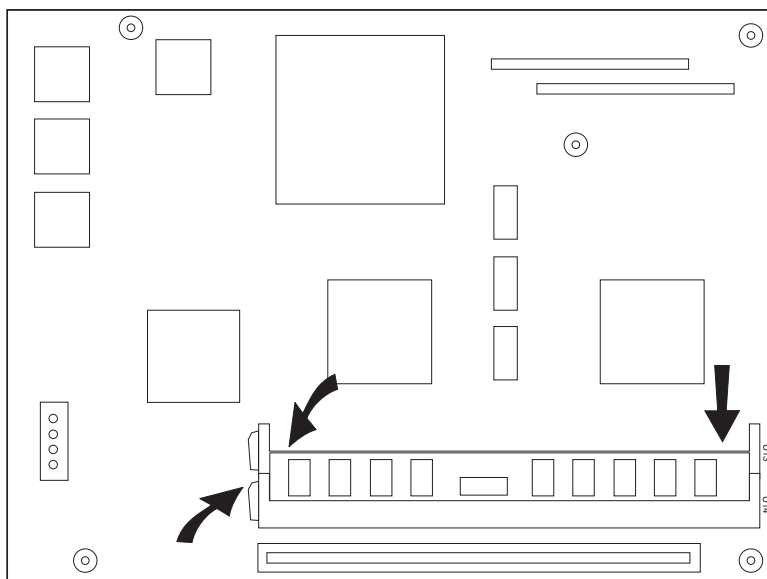
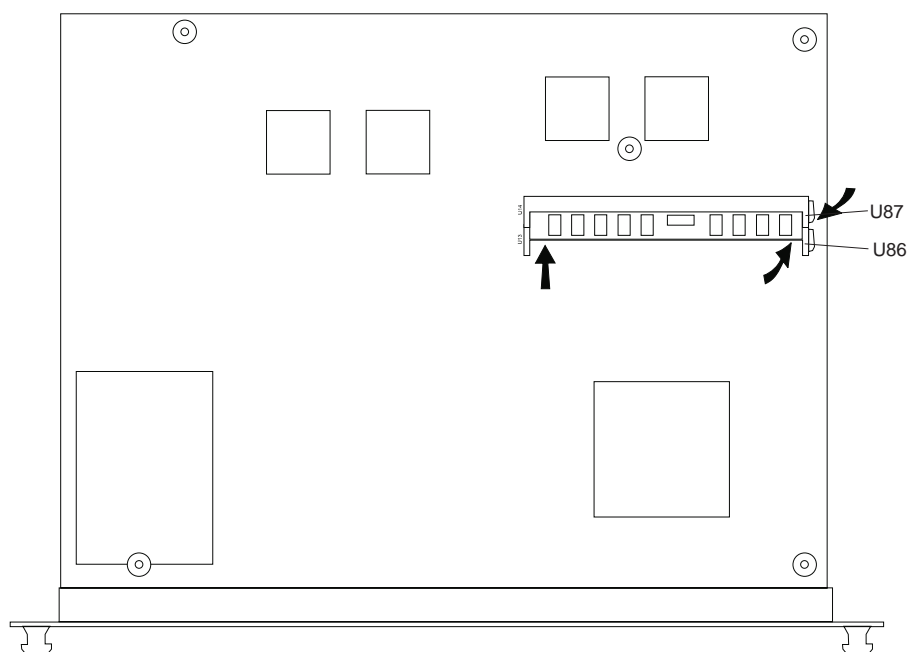

Figure 4-3. Previous System Card
Figure 4-4. Previous System Card
- 5 According to the system card type (see Figure 4-3 on page 4-12 and Figure 4-4 on page 4-12) locate either the slot numbered U14 or U87 if you are installing one 64-MB DIMM. Locate the slot numbered U13 or U86 if you have two 64-MB DIMMs.